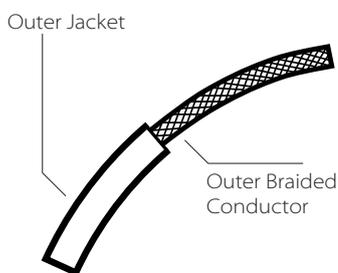

Fig. 1
2. Install the mounting plate (B) to the ceiling under outlet box (A) with included screws (C).
3. Determine the height at which the fixture (D) is to be hung. Insert the steel cable (E) through the respective holes in the canopy (H) for the lock (F) and adjust to the desired length. To shorten the cable, push the cable up and it will be locked automatically. To lengthen the cable, lift up on the cable and push up on the lock. While keeping the lock depressed, lower the cable to the desired length. Release the lock to set.
4. Use the screwdriver to loosen the slotted set screw (G). Adjust height of cord. Tighten the set screw to set. Reserve extra cord in the canopy (H).
- a. Connect the LED driver's (J) live wire to the live outlet box wire.
- b. Connect the LED driver's (J) neutral wire to the neutral outlet box wire.
- c. Connect the canopy's ground wire (green or uncoated) to the ground outlet box wire. If no ground is present in outlet box, connect canopy's ground wire to the mounting plate (B) using the green screw (included).
6. Install canopy (H) to the mounting plate (B) with canopy nuts (K) and make final adjustments to the height.
7. Slide cord rings (L) as close to canopy (H) and fixture (D) as possible (Figure 1).
8. Install trim (M) by threading it to fixture (D).
(Figure 1)
1. Make a 1" slice along the length of the cord's outer jacket (Fig. 1).
2. Carefully strip the outer jacket of the cord and keep the outer braided conductors intact (Fig. 1).